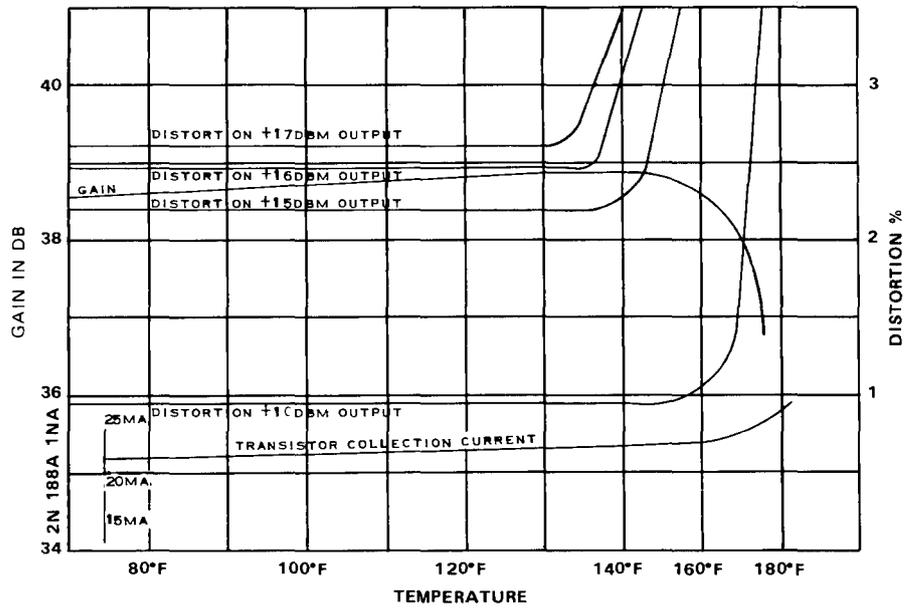
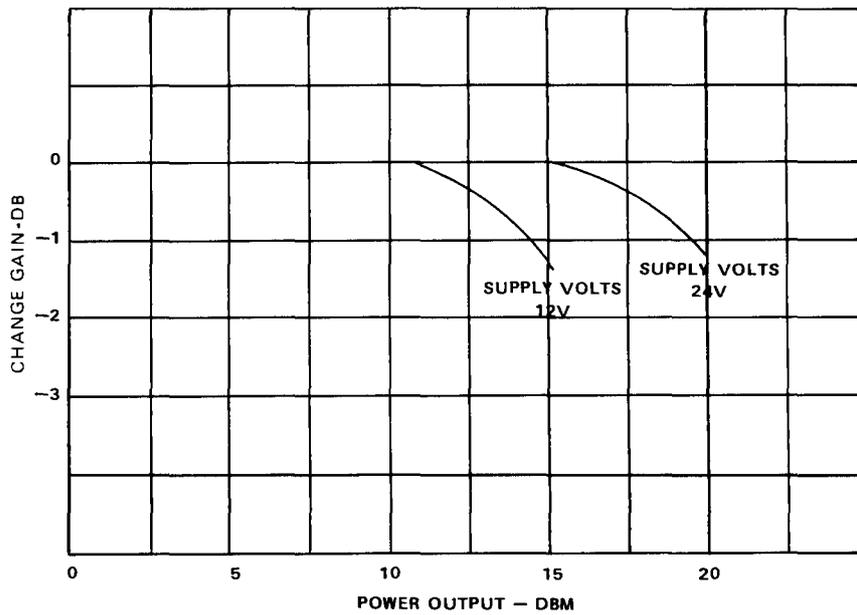

Fig. 5 — 447A Amplifier (24V Supply)
Fig. 6 — 447A Amplifier
3.03 Gain characteristics, distortion characteristics, and the output transistor collector current characteristics over the temperature range of 80°F to 160°F are shown in Figure 5. At elevated temperatures the power rating of the transistor decreases appreciably; and, while the data of Figure 5 was obtained under 24 volt operation, it is necessary to decrease the supply to 12 volts for continuous operation of the unit at high temperature. Change of gain vs. output power characteristics for normal and reduced voltages are shown in Figure 6. Total current consumption at 12 volts is 12 ma.